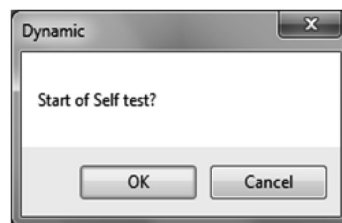

Fig.117
- ③ Click the "OK" button to display a message box (Fig. 117).